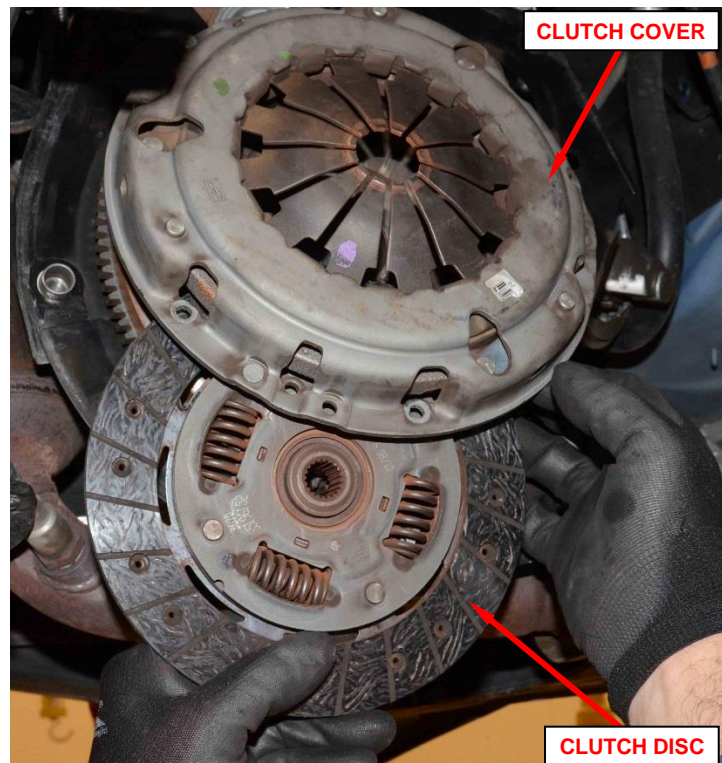

Figure 57 – Clutch Cover and Clutch Disc
67. Remove the clutch cover and the clutch disc (Figure 57).